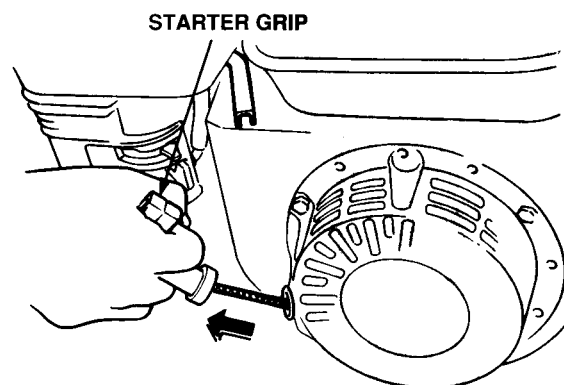

Figure 15. Starter Grip
5. Grasp the starter grip (Figure 15) and slowly pull it out. The resistance becomes the hardest at a certain position, corresponding the compression point. Rewind the rope a little from that point and pull out sharply.